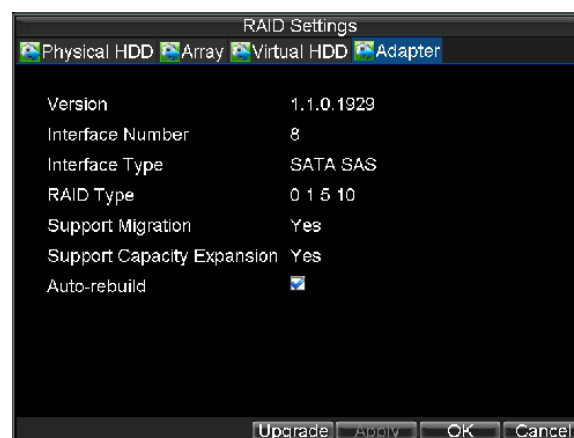

Figure 9. Adapter
2. Select the **Adapter** tab to enter the Adapter interface, as shown in Figure 9.